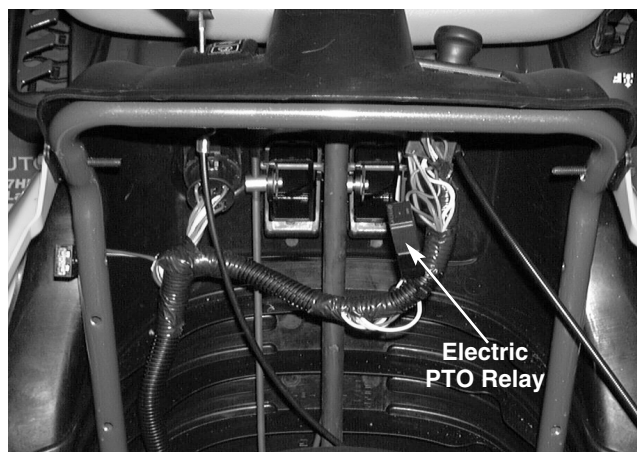

FIGURE 25.
- 1). Locate the electric PTO relay and wiring harness. See figure 25.